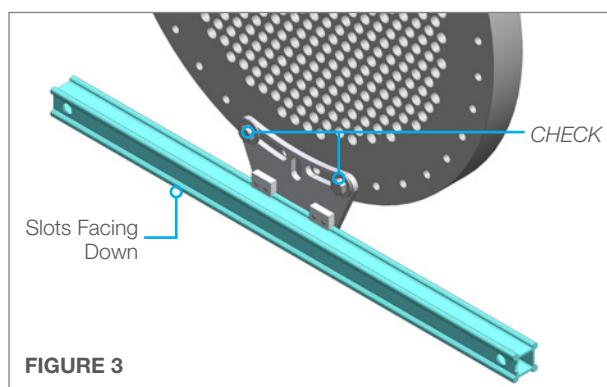

FIGURE 3
3. Loosen the **Rail Clamp Tensioner** on the bottom **Positioner Clamp** and insert the **Lower Rail** with the *slots facing down*, into the lower rail clamps. It is not critical that this rail is aligned as precisely as the top rail, but it should be close to parallel with the top rail for best performance. Tighten the **Rail Clamp Tensioner** securing the rail to the **Positioner Clamp**. Check Rail Clamp bolts to ensure they are secured to the tube bundle flange. (**Figure 3**)